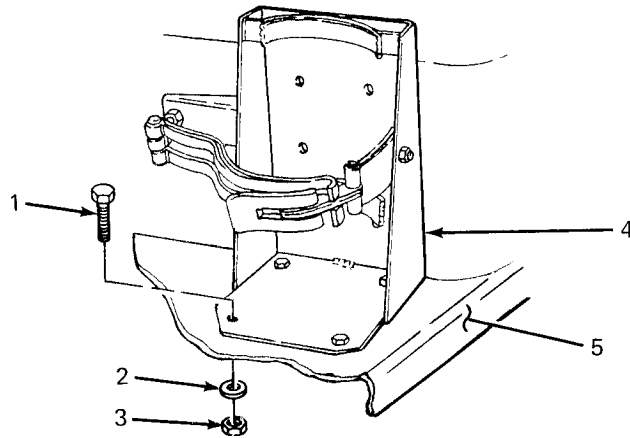

Figure 4-7. Fire Extinguisher Bracket Replacement.
4-19. Fire Extinguisher Bracket Replacement. (See figure 4-7.) The fire extinguisher supplied with the power unit is carried in a bracket mounted on the trailer front roadside step.
- (1) Remove four screws (1, figure 4-7) four flat washers (2), and four nuts (3) securing bracket (4) to step (5).
- (2) Remove bracket (4) from step (5).